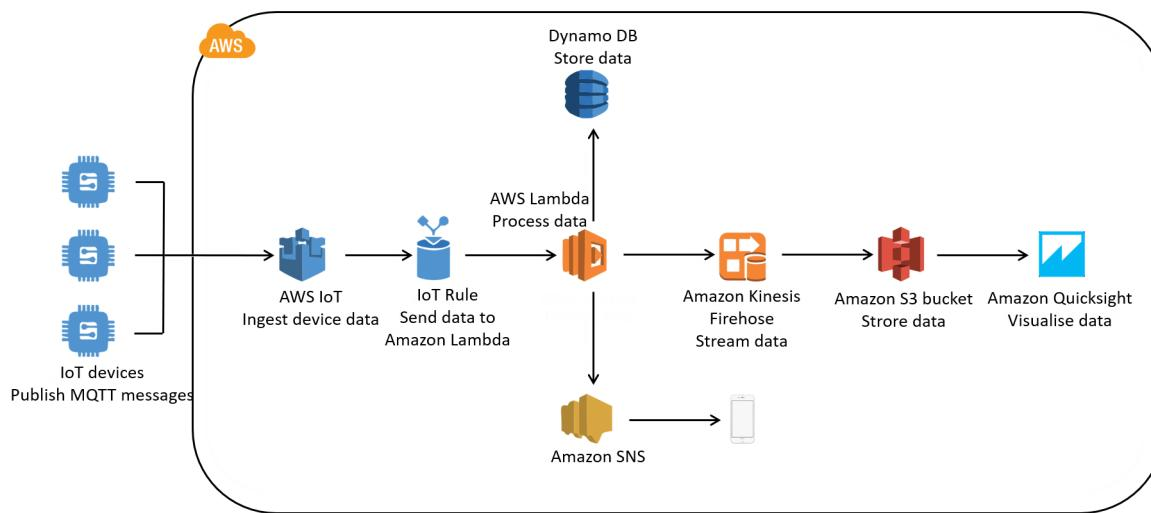

Figure 5: AWS example
- **Amazon AWS:** Figure 5 shows a sample application using Amazon AWS. In this example, the devices are provisioned to connect securely to the Amazon AWS IoT core. The incoming data is then processed using the AWS lambda function. Using the thresholds stored in the Dynamo DB, the lambda function detects the thresholds and sends notifications to the user using the notification service (Amazon SNS). Further, the data is streamed to an S3 bucket using the Kinesis Firehose streaming service. The stored data can be used for visualization using Amazon Quicksight service.